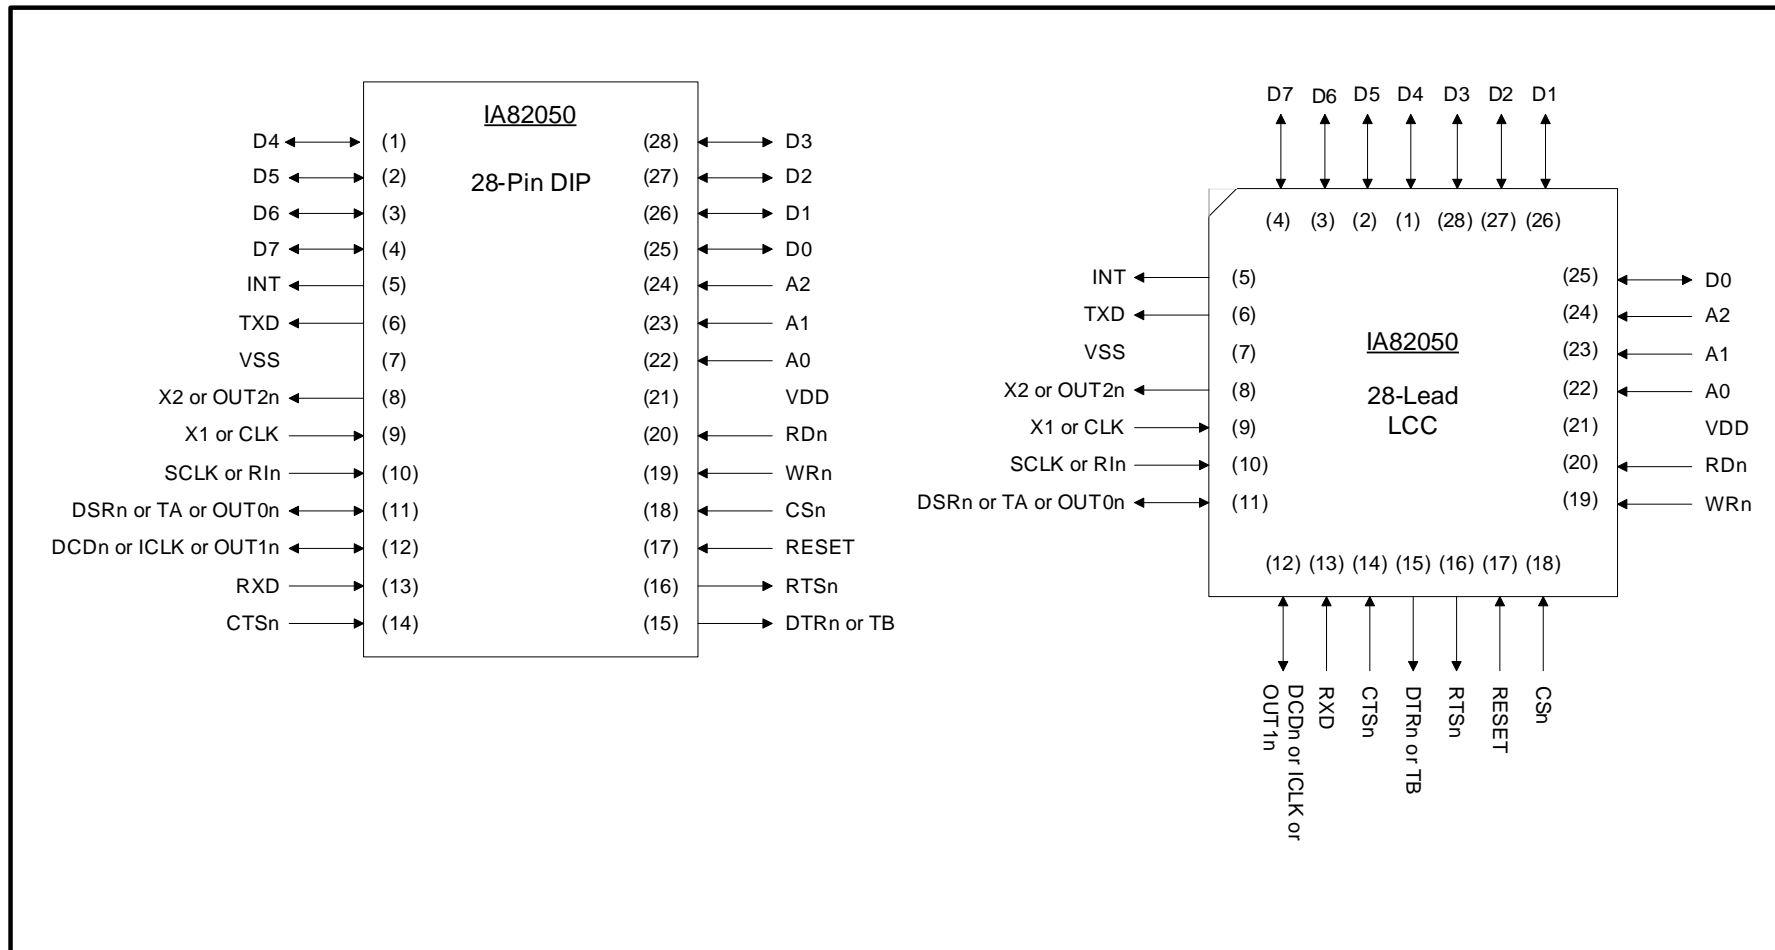

Figure 1. Package Pinout
- Packaging options available: 28-Pin Plastic DIP and 28-Lead Plastic Leaded Chip Carrier (see Figure 1, Package Pinout)